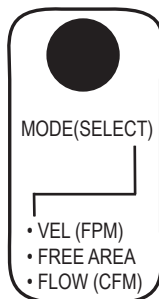

Fig. 2
change to the air velocity/ temperature display (fig. 2). Turning off the unit will erase any air velocity (FPM) or flow volume (CFM) readings. The unit will reset to 0000 velocity or flow volume. The “Free Area” number (see below) will not change from the four digit number you’ve entered and saved.
2. Unit is ready when LCD shows “vel” in upper left and temperature at lower right (fig. 2).